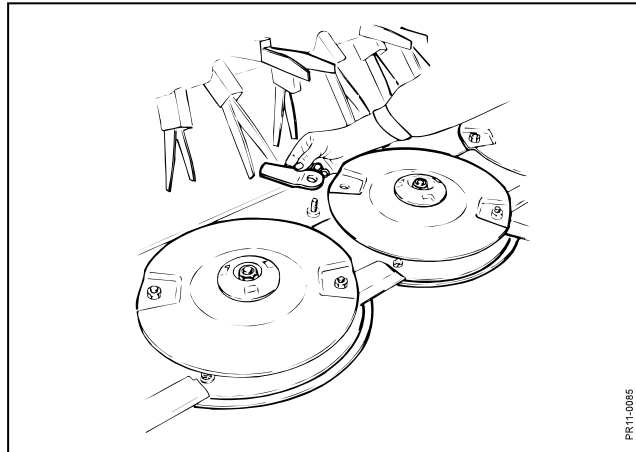

Fig. 5-10
**Fig. 5-10** To obtain a satisfactory harvesting **it is important that blades and shearbar are intact and sharp.** Replacement of blades: dismount the blade bolt and pull it out from beneath the disc. This is easily done when the blade is in the front position so that the bolt can fall out through the hole in the stone protector. Remove the old blade and mount the new one together with the blade bolt. The blades can be used on both sides by moving the blades from one disc to another with opposite direction of rotation.